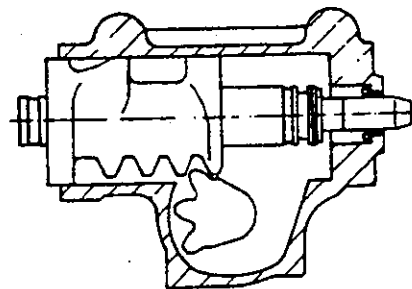

Fig.33
First introduce piston (100) into housing complete with worm (151) until toothed segment engages the first gap in the teeth of piston (100) when swung upwards (*Fig.33*).